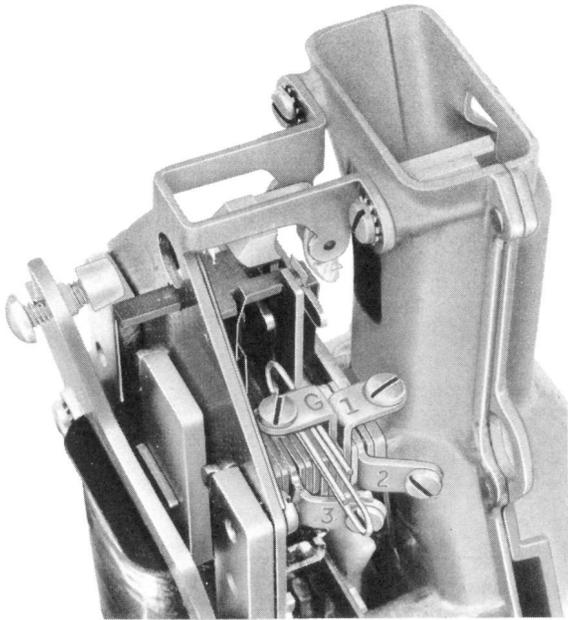

Fig. 10 — Method of Strapping Ground Around Ground Contacts on Coin Relay
- (1) Provide ground on line by inserting paper clip or equivalent between ground terminal and spring pile-up of No. 4 spring (Fig. 10).